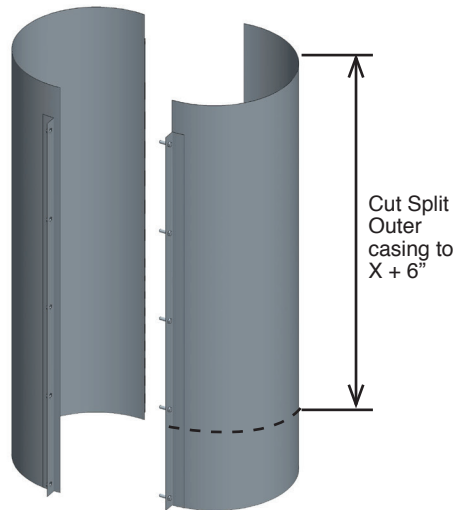

Figure 24b - Step 3 - Cut of the Outer Casing
3. Cut the split outer casing at dimension X + 6". See **Figure 24b**.